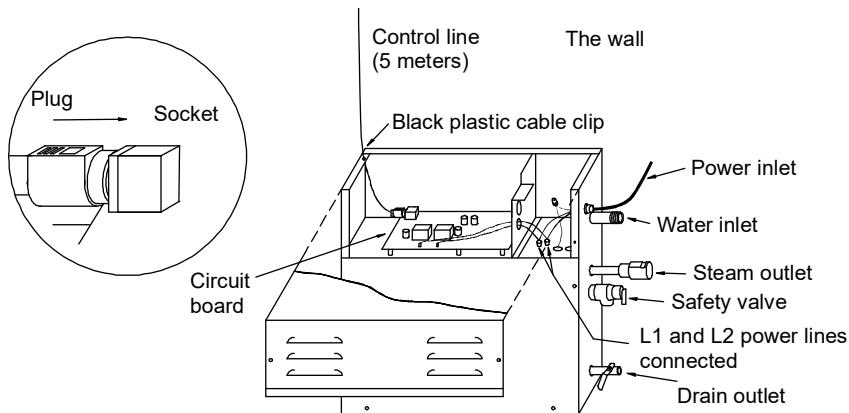

Figure 3
3. Steam pipe - steam pipe should use copper pipe longer than DN15(1/2") (ferrous metal and galvanized pipe was not allowed to use for it can make the steam room rust and discolor). The length of steam pipe was no more than 3 meters. It should be used for keeping warm if it is longer than 3 meters. (Please refer to figure 3)